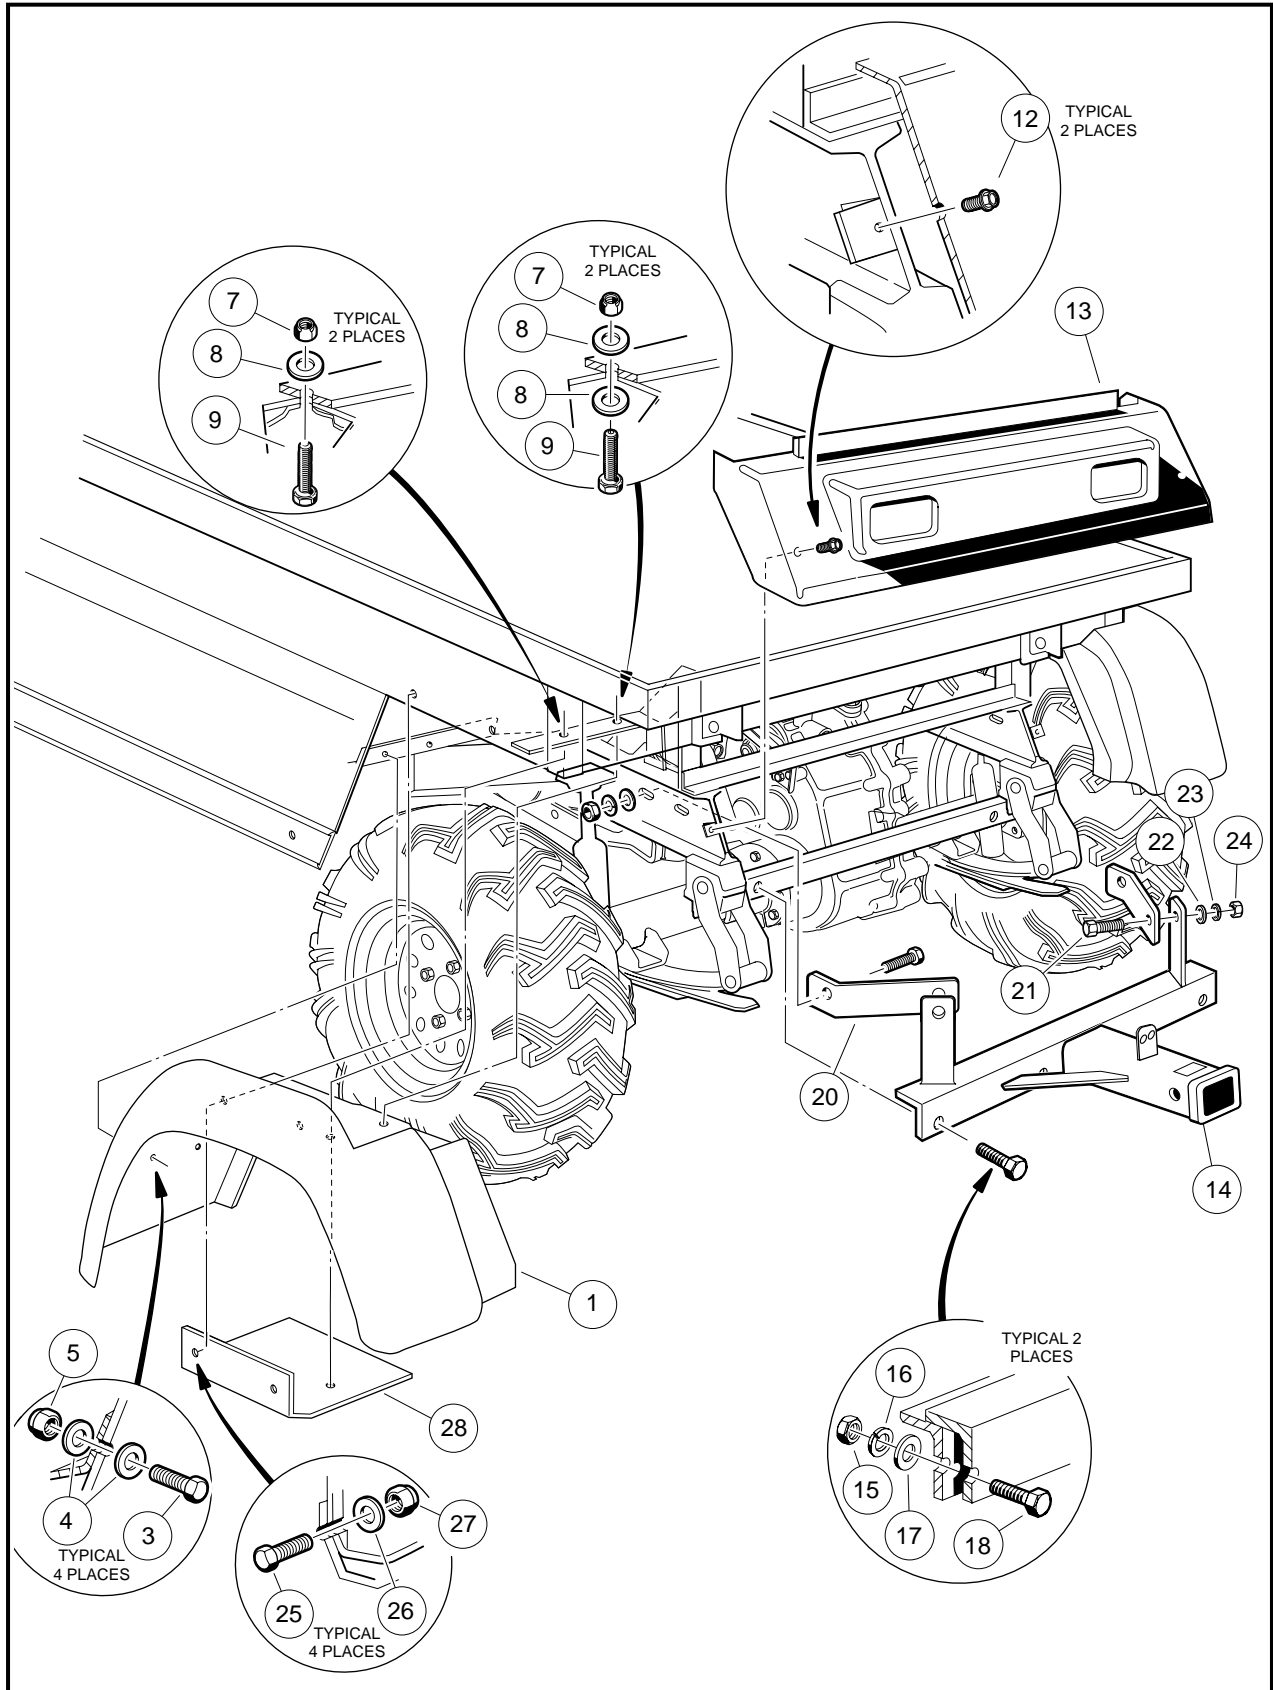

Figure 4-4 Rear Fender, Tailskirt, and Receiver Hitch
1. Remove two nylon locknuts (5) and flat washers (4) from front of fender. Remove two bolts (3) from front of fender (1) (**Figure 4-4, Page 4-11**).
2. Remove two nylon locknuts (7) and flat washers (8) from top of fender (1). Remove two bolts (9) and flat washer (8) from underneath fender.
3. Remove the two nylon locknuts (27), washers (26) and bolts (25).
4. Remove fender (1) and fender guard (28) from the vehicle.
1. Remove two thread-forming screws (12) from tailskirt (13) and lift tailskirt from vehicle frame (**Figure 4-4, Page 4-11**).
1. Insert upper edge of tailskirt (13) under, and in front of, back edge of rear body (**Figure 4-4, Page 4-11**).
2. Align holes in tailskirt (13) with holes in vehicle frame. Position tailskirt flush against frame (**Figure 4-4, Page 4-11**).
3. Install two thread-forming screws (12) in tailskirt and tighten to 55 in-lb (6.2 N·m) (**Figure 4-4, Page 4-11**).
1. Reverse removal procedures to install hitch (14). Tighten hardware to 15 ft-lb (20.3 N·m) (**Figure 4-4, Page 4-11**).